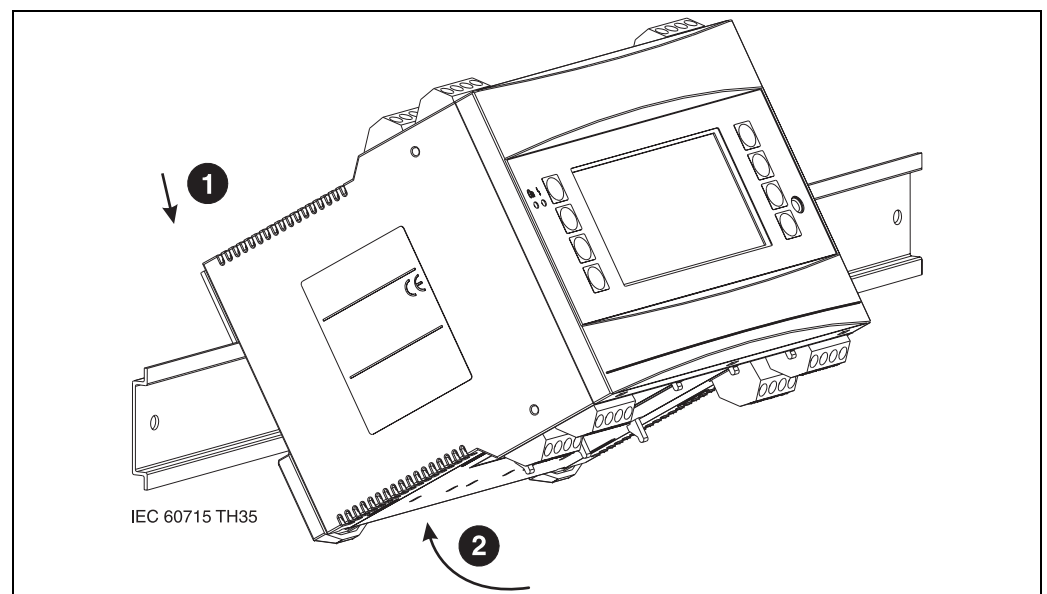

Fig. 3: Mounting device on top-hat rail
Now snap the housing onto the top-hat rail by firstly hanging the device on the top-hat rail and then pressing it down gently until it engages (see Fig. 3, item 1 and 2).